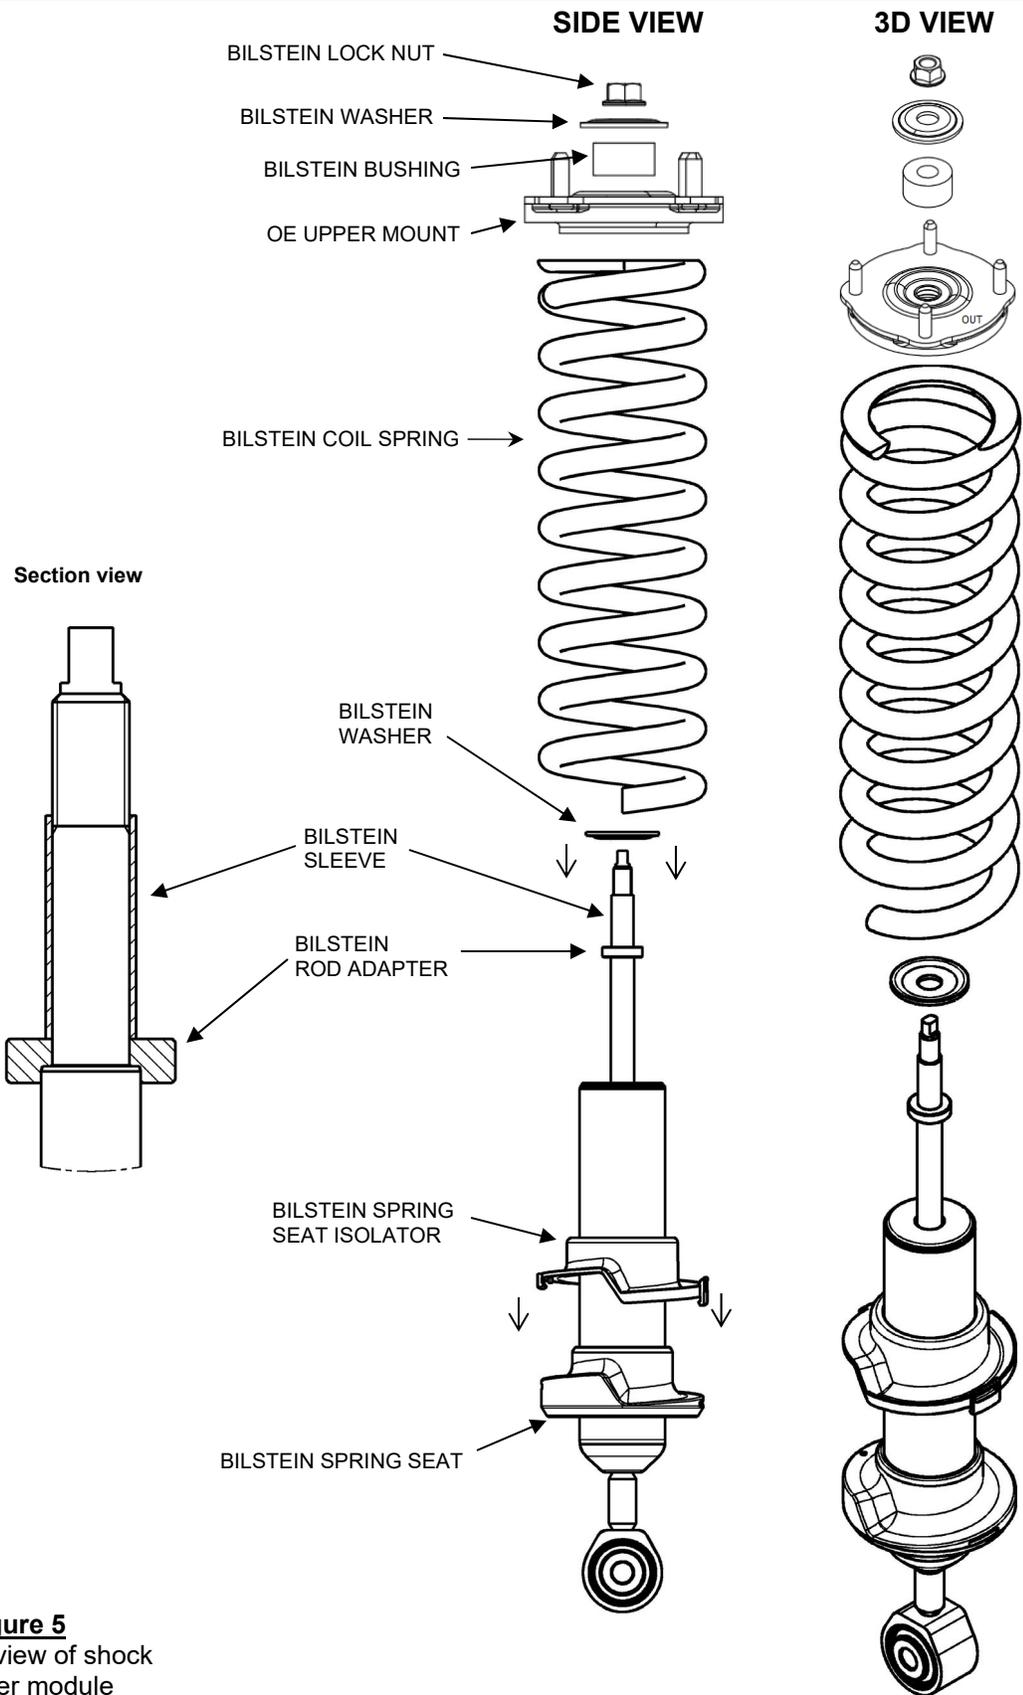

**Figure 4**
- M. Install the provided new locknut and tighten to 65 Nm (48 lb·ft). Be sure to keep the top washer centered under the nut while it's being torqued to ensure it seats around the sleeve. Use an 8mm wrench or crescent wrench to keep the piston rod from rotating while torquing the locknut. Refer to the dimension in Figure 4 below to verify the upper washer seats around the sleeve once tightened.